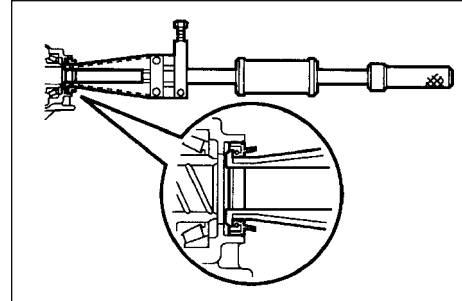

Figure 6-6
1. Remove the oil seal of the transmission housing (see Figure 6-6).